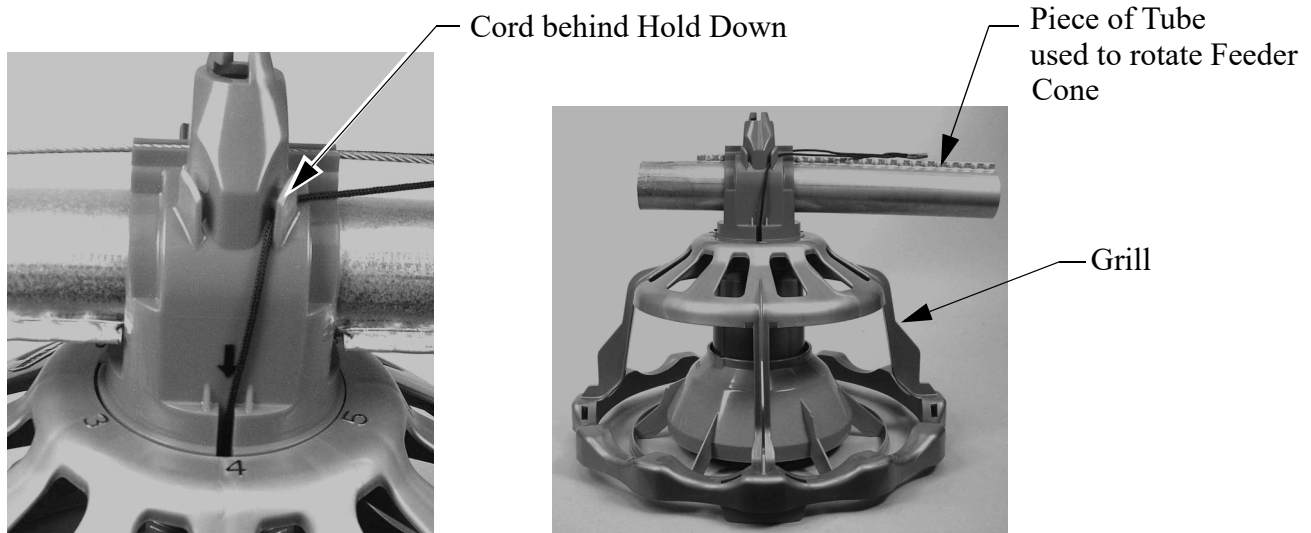

Figure 21. Cord routing/Installing the Grill
- Align the threads and rotate the Cone to engage the threads into the Grill. see figure 21.